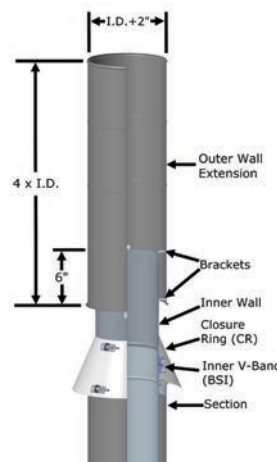

Figure 71a - No Loss Cap (NLC) installed or I.D. from 5" to 13"
The last 6" of the inner flue is surrounded by a larger outer wall (I.D +2") that has a height of 4 times the flue diameter and is open at the bottom. The Closure Ring (CR) must be seal to the inner wall with outer Sealant **S-375**. Rain water that falls into the larger wall washes down the side of the larger chimney and discharges at the bottom. See **Figure 71a**.
For I.D. from 5" to 13", the No Loss Cap is an integral component that attaches to the chimney flue using a standard inner V-Band (BSI) (See **JOINT ASSEMBLY Section**). For Models CAX1, CIX1, CIX2 and CIX4, a Closure Ring (CR) is provided to protect the insulated space between standard pipe inner and outer. See **Figure 71a**